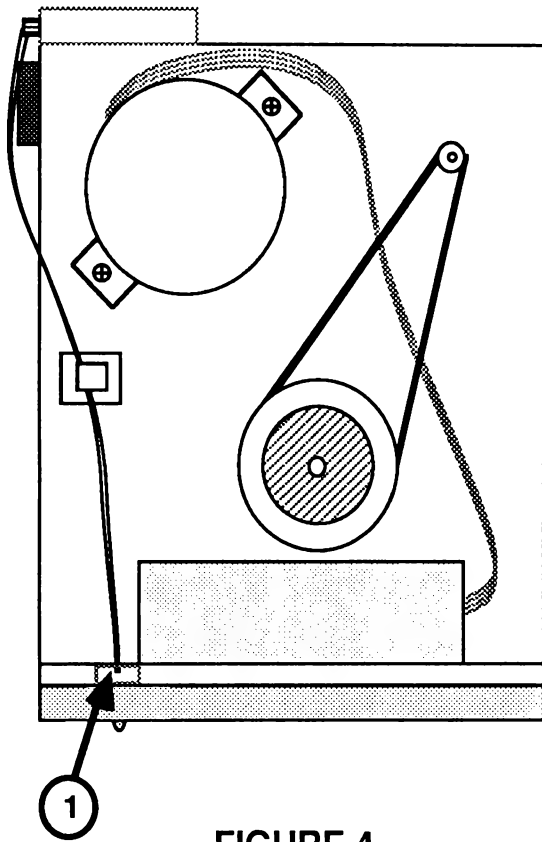

FIGURE 4
2. Route the cable as shown in Figures 4, #1 and 5, #1.